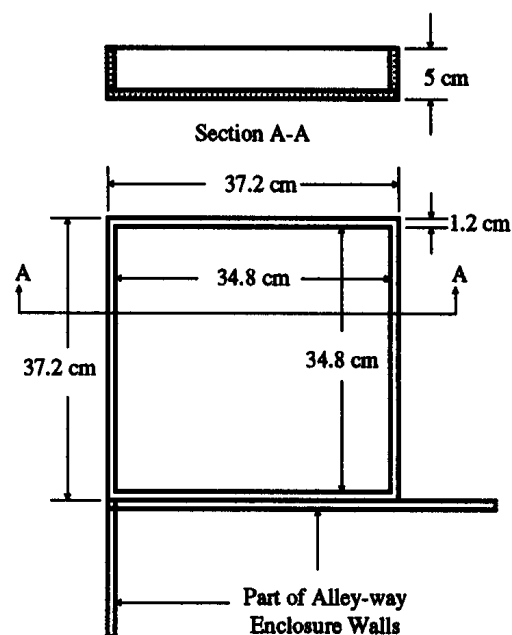

Figure 2 Disposal Centre Dimensions
- 2.3 Each of the disposal centres shall be a box with a top opening. The internal dimensions shall be 34.8 cm x 34.8 cm x 5 cm (length x width x height). The thickness of the sidewalls shall be 1.2 cm (See Fig 2). The disposal centre shall be located such that the top edges are at the same level as the top of the alley-way walls and one side flushes with the side of the alley-way enclosure wall.